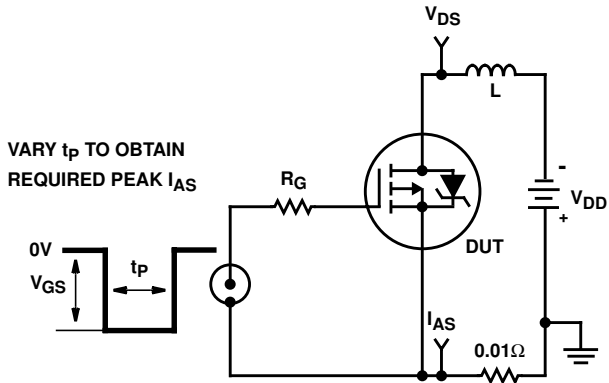

FIGURE 15. UNCLAMPED ENERGY TEST CIRCUIT
4.  $V_{DD} = 25\text{V}$ , starting  $T_J = 25^{\circ}\text{C}$ ,  $L = 5.2\text{mH}$ ,  $R_G = 25\Omega$ , peak  $I_{AS} = 12\text{A}$ . See Figures 15, 16.